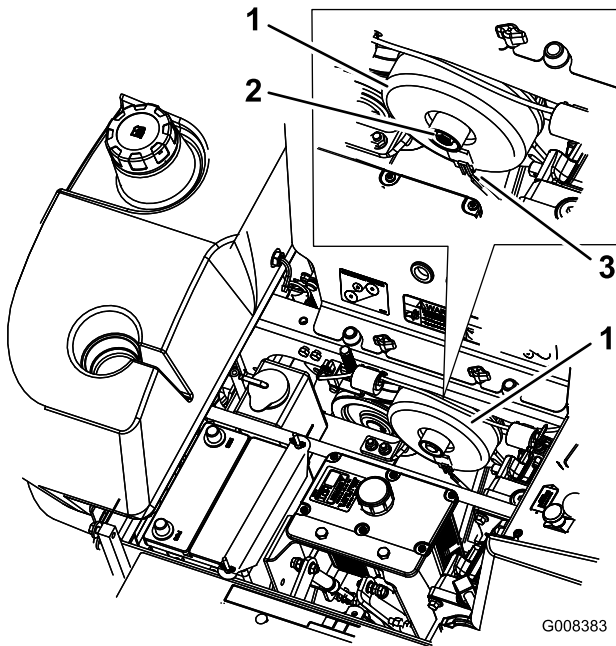

Figure 3
8. Unplug the electrical connection at the clutch (Figure 3).
10. Remove the bolt in the center of the clutch and slide the clutch off the engine shaft (Figure 3). Save the bolt for installing the new clutch.